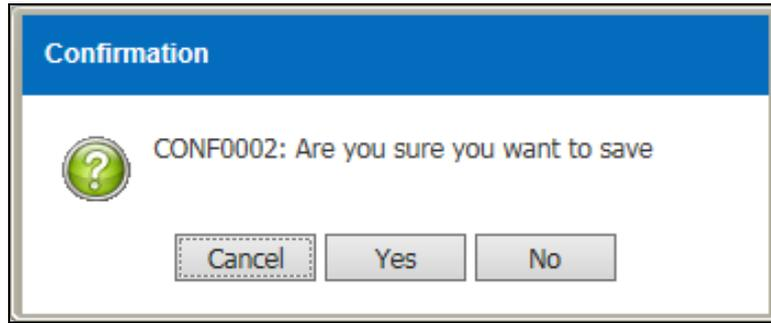

Figure 3.1.3-4 Save record
- Click on the  button in Figure 3.1.3-4.
- Click on the  button in Figure 3.1.3-5.